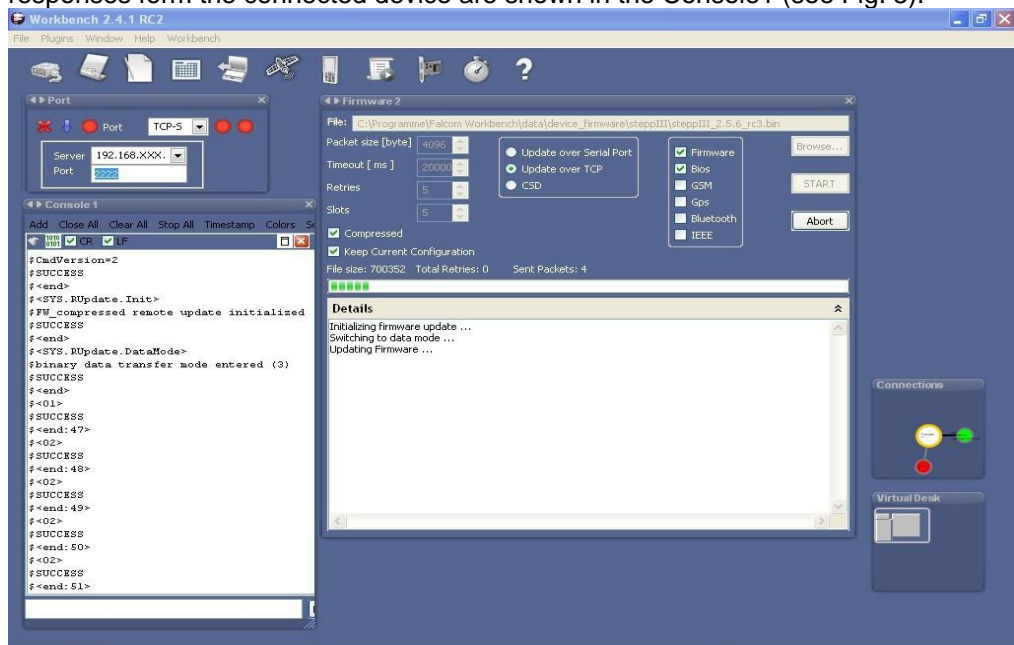

Figure 5: Update process
9. The current status is shown in the Details while the number of the packet and responses from the connected device are shown in the Console1 (see Fig. 5).